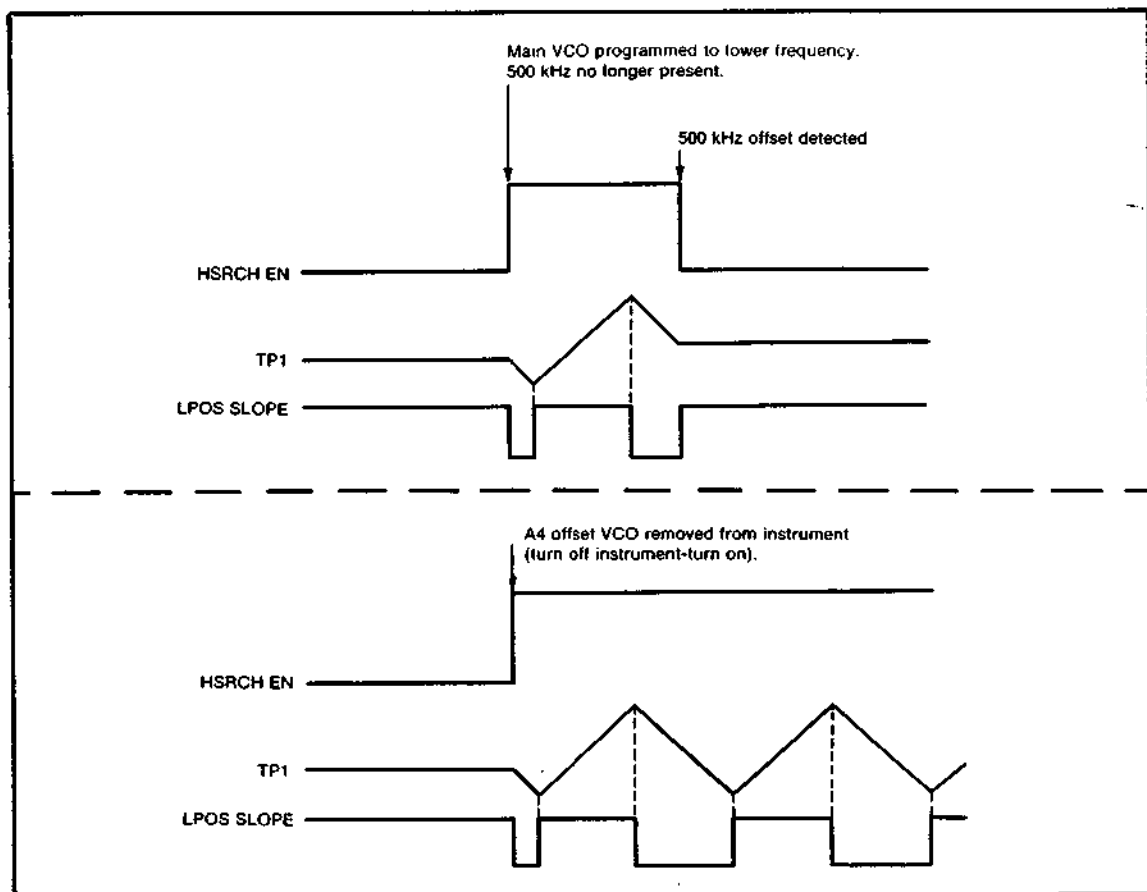

Figure 8-11. Timing Diagram of A6 Search Generator Operation
8-165. When the sweep ramp present at U1D(12) crosses above the upper threshold of 1.6 volts, the output of U1D(11) goes low, U1B(6) goes high and U1A(3) goes low. This causes Q4 to conduct which forward-biases CR4. Since U1B(6) is high, CR3 is reverse-biased. Current is now supplied through CR4 to the integrating capacitor C10. This causes the output of U2(6) to decrease linearly. Since U1A(3) is low, LPOS Slope is TTL low and the loop is allowed to lock once a 500 kHz difference frequency is detected on A7. When lock is achieved, HSRCH EN goes TTL low which causes U1B(6) and U1A(3) to both go TTL high, thereby reverse-biasing both CR4 and CR3. The voltage at the output of U2(6) is therefore maintained at that level which achieved lock. The timing diagram for this operation is shown in Figure 8-11.